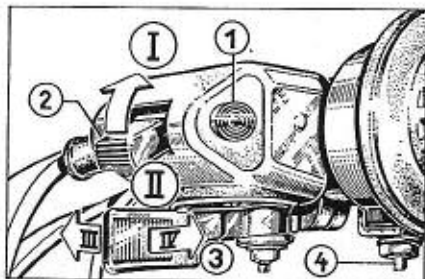

Fig. 4
| (2) Starter lever (see Fig. 4) | (9) Foot-operated brake lever |
- Pull the starter lever to the right (see Fig. 4), the throttle twist-grip is closed.
- in the variants without ignition-light switch, starting is performed by means of the kick-starter and switching off by means of the short-circuit button (Fig. 4).